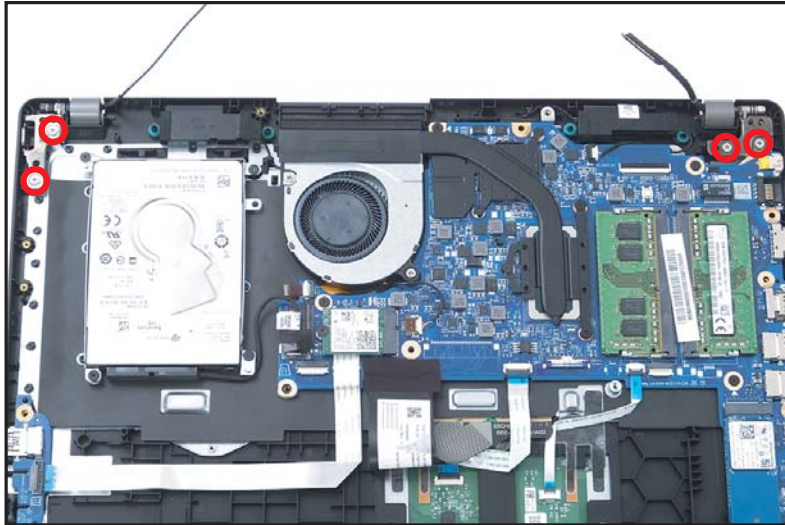

Figure 1-96. Replacing the LCD Module
3. Install and secure four (4) screws to the LCD hinges (Figure 1-96).